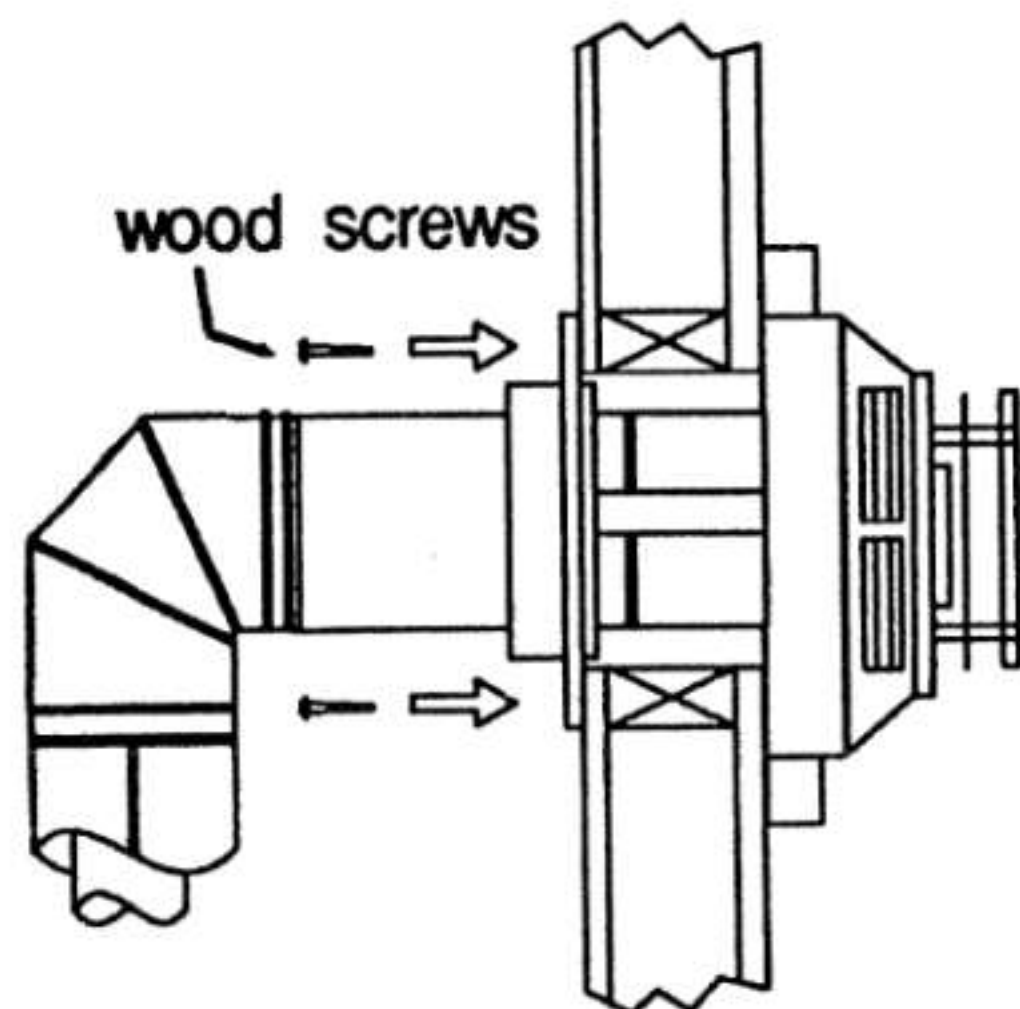

Fig. 5
- 8) Slide the decorative wall thimble up the wall surface and attach with screws provided. Apply decorative brass or chrome trim if desired. Fig. 5.